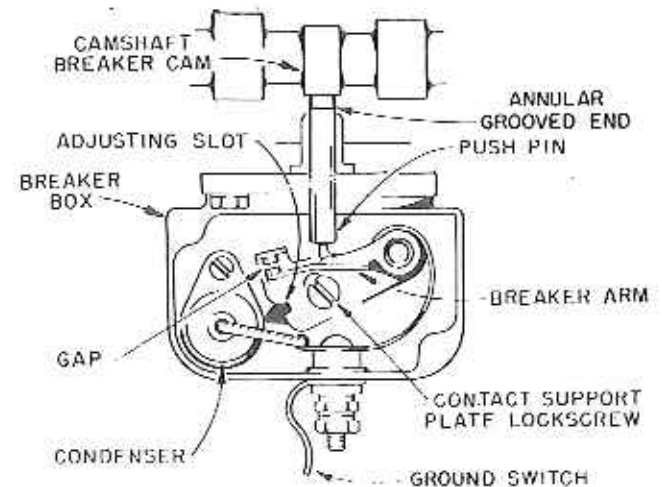

Fig. 2
B. REFER TO FIG. 2 FOR INSTALLATION OF HARDENED STEEL HEAD PUSH PIN FOR THE MAGNETO BREAKER ARM.